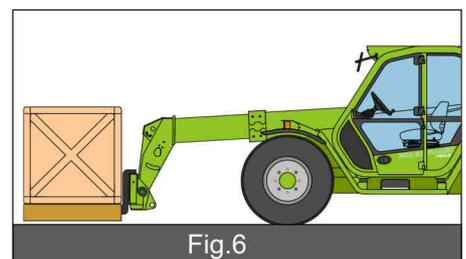

Fig.6
- extend the boom, bring the forks under the load and lift it a few centimetres (Fig.6).